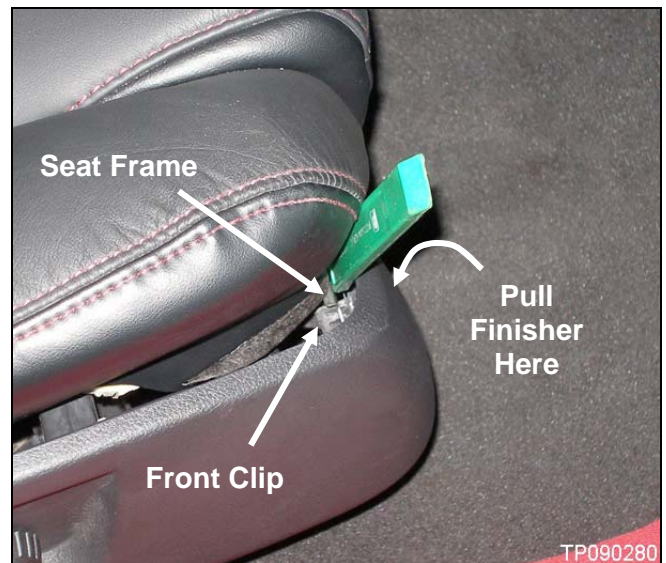

Figure 4
- d. To unfasten the front clip, grab and pull on the front inner edge of the finisher while prying between it and the frame it's clipped to (see Figure 4).